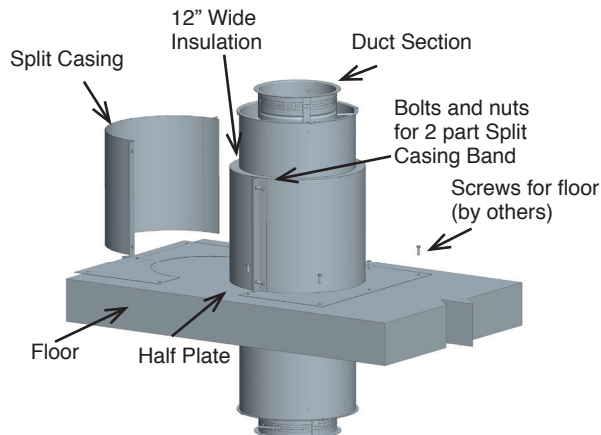

Figure 110: Step 1-2-3-4-5-6 of TPFK
6. Wrap a 12" wide strip of the fiber insulation around the grease duct. The insulation must butt up to the cover plate and outer wall of the duct. See **Figure 110**.